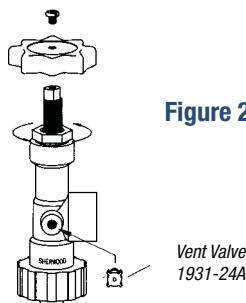

Figure 2
4. With the 1" socket and an appropriate wrench, fully loosen the bonnet nut by turning it counterclockwise, as shown in Figure 2. With the bonnet threads disengaged from the body, slowly pull the bonnet and the attached push-rod assembly straight out of the body. Discard the entire bonnet/push-rod assembly. Do not reuse any of the old parts except the handwheel and screw.